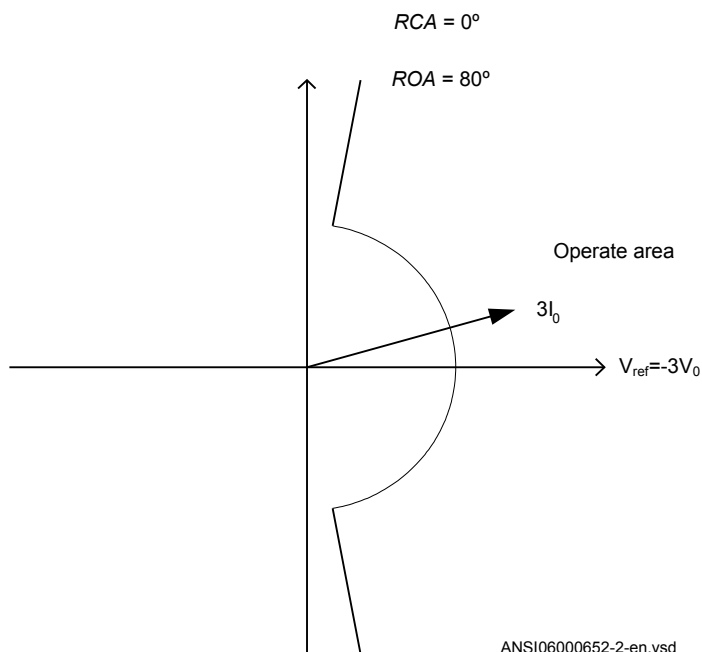

Figure 11: Example characteristic
4. Compare the result with the set values, refer to figure 11 for example characteristic.